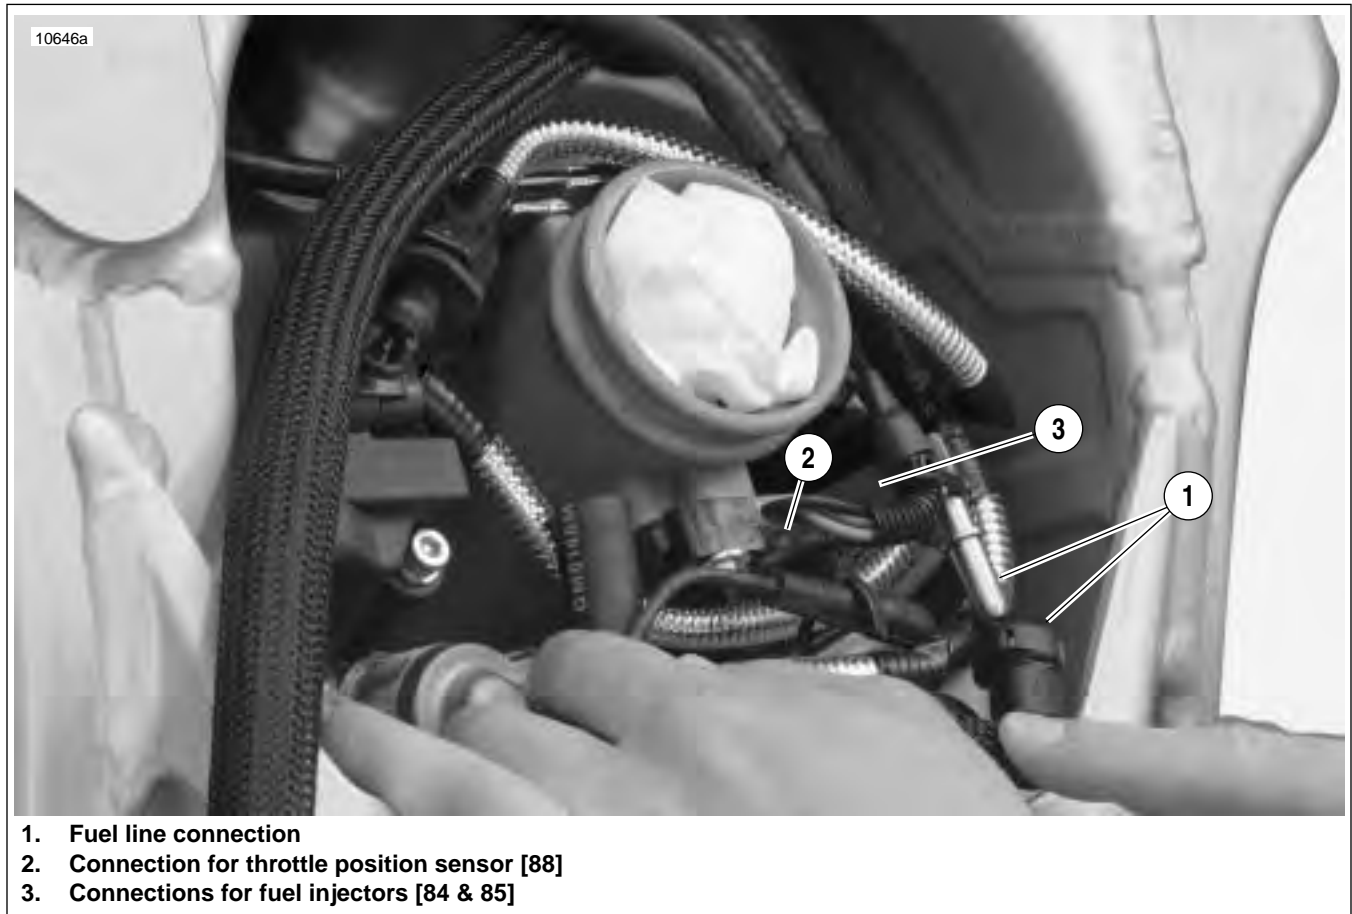

Figure 3-56. Fuel Line and DDFI Electrical Connections (Typical)
40. See Figure 3-56. Connect throttle position sensor [88].